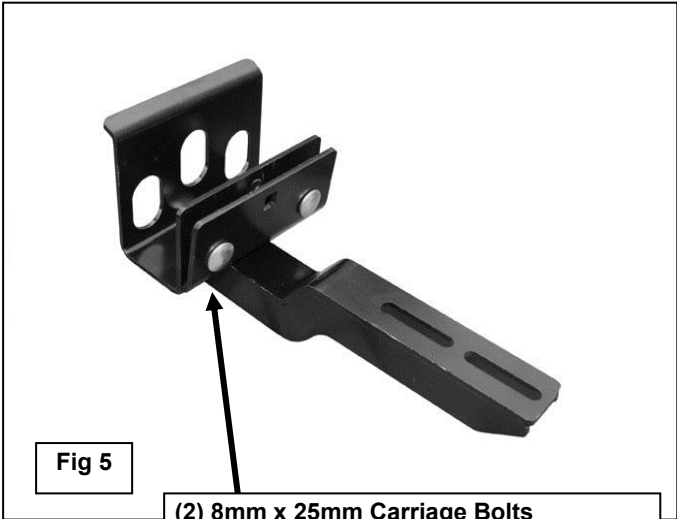

Fig 5
4. Bolt the Clamp Plate to the outside of the center Bracket with (2) 8mm Carriage Bolts (insert through Plate and the Bracket), (2) 8mm x 22mm Large Flat Washers and (2) 8mm Nylon Lock Nuts, **(Figure 5)**. Do not tighten hardware at this time.